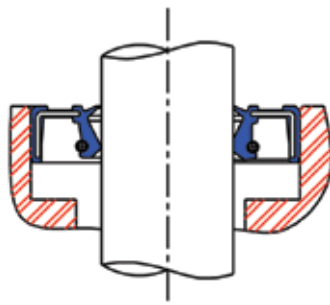

Fig. 2
3. Check shaft to bore offset (Fig. 2)